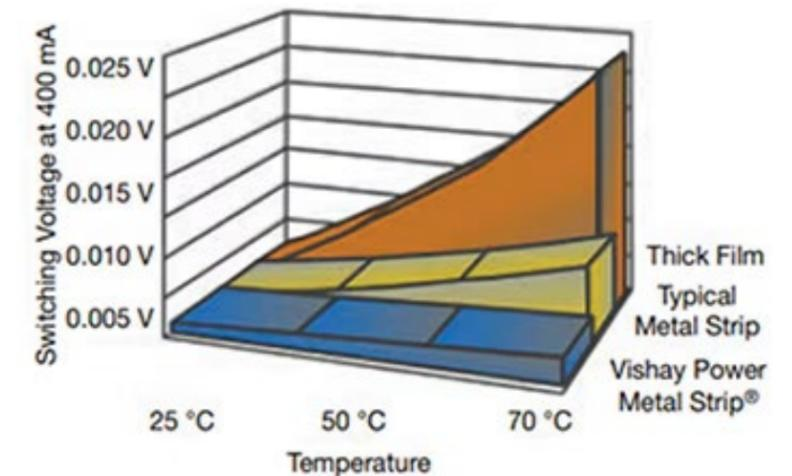

Figure 3: Comparison of Vishay Power Metal Strip resistors to typical metal strip and thick film resistors. (Image source: Vishay Dale)
Figure 3: The TLVR topology adds interphase inductors (top) to couple the phases and enable them to have earlier “knowledge” of current demand (bottom). (Image source: Abracon)
In addition, the secondaries of all phases are interconnected in series to a single compensation inductor (LC) (Figure 3, top right). Each primary winding voltage is reflected on the corresponding secondary winding. Since all secondaries are connected in series, the compensation inductor sees the sum of all these waveforms.
DC link capacitors serve as smoothing filters in DC circuits found between AC stages. An example is an inductor-capacitor (L-C) filter on the DC bus between a motor drive circuit's rectifier and inverter stages (Figure 3).
Figure 3: Shown is a DC link film capacitor used in an L-C filter between a motor drive circuit's rectifier and inverter stages. (Image source: Eaton-Electronics Division)